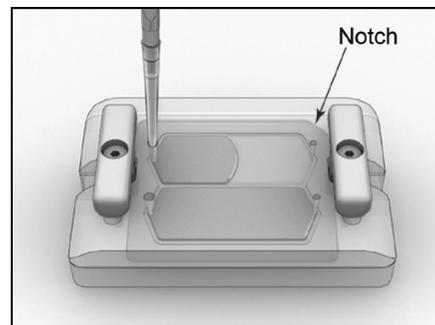

Figure 10: Filling the loading regions of the assembled Bead Deposition Device
- Promptly load the bead suspension onto the first region of the PTP device, through the port hole on the BDD top (see Figure 10). Make sure to use a single, smooth dispensing action to ensure even distribution of the beads over the entire region of the PTP device.
- Promptly load them onto the first region of the PTP device, through the port hole on the BDD top (see Figure 10).
- Promptly load the bead suspension onto the first region of the PTP device, through the port hole on the BDD top (see Figure 10).